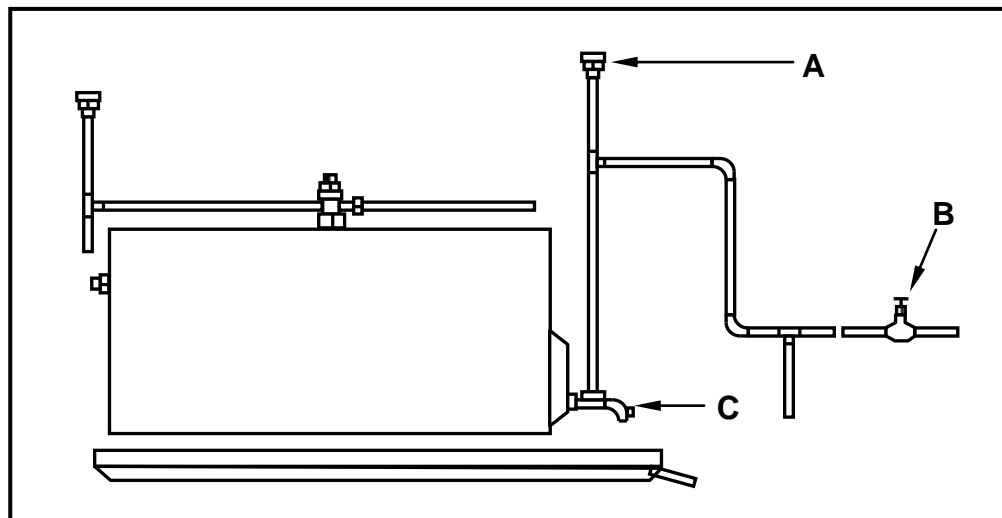

FIGURE 4.3
4.3 FIGURE 4.3 below is a sketch of a horizontally installed high-pressure geyser. Study the illustration and answer the questions that follow.